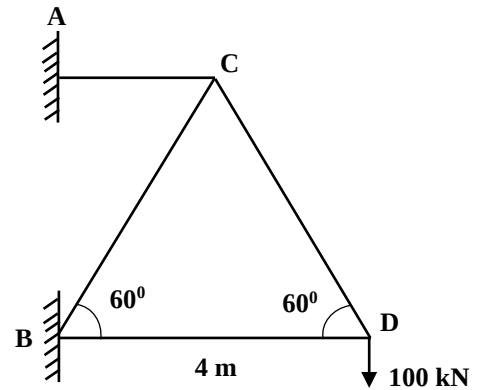

FIGURE -4
- (c) Find forces in all the member of a truss shown in Figure-4 by method of joints. 07
- (c) Find forces in all the member of a truss shown in Figure-4 by graphical method. 07